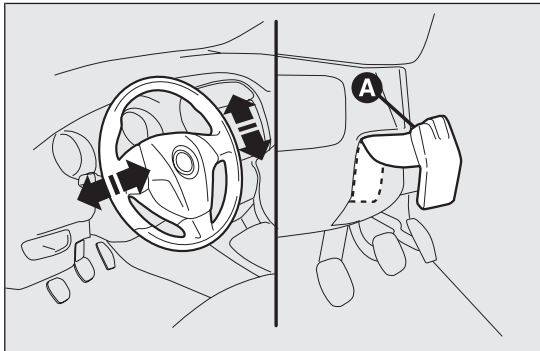

fig. 34
Release the lever A fig. 34 pulling it towards the steering wheel, then adjust it in the most suitable position and lock it pushing the lever A fully forwards.
*When driving, the mirrors should always be in position A-fig. 34.*